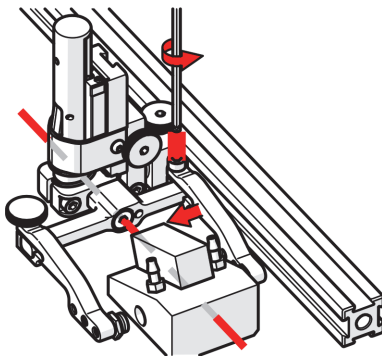

Figure 2-53 Adjust inner arm
1. Position the wedge on the inner probe holder arm (see Figure 2-53 on page 93).